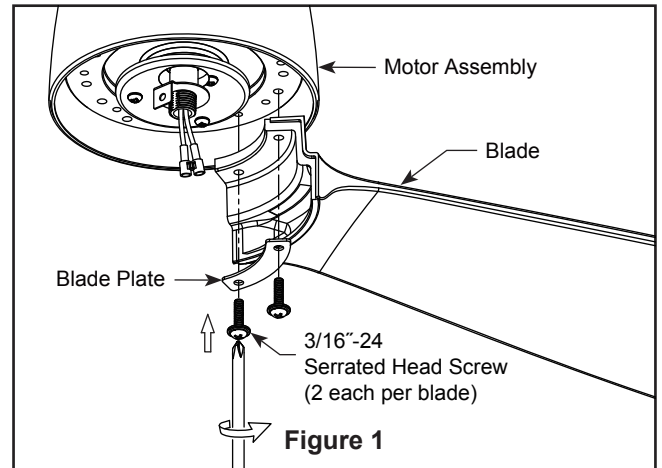

Figure 1
1. Assemble canopy by rotating key slot in canopy over shoulder screw in hanger bracket, taking care not to pinch the wires. Tighten shoulder screw. Fully assemble and tighten second shoulder screw that was previously removed. (Figure 1)
1. Align blade holes with posts on the motor assembly flywheel. Make sure the blade is fully seated against the flywheel. Place blade plate over the blade with holes aligned and assemble blade to flywheel using serrated head screws, fully tighten the screws that attach the blades to the motor assembly flywheel. (Figure 1)